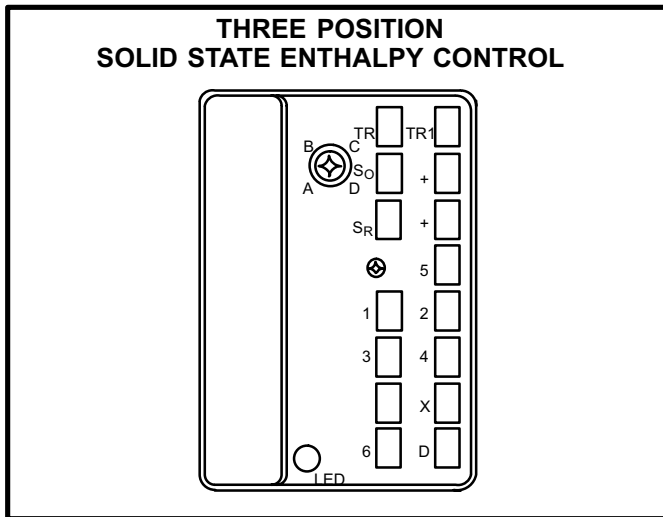

FIGURE 54
- 3- Install jumper across enthalpy control terminals D and TR1. See figure 54 for terminal location.
- 6- Remove jumper installed in step 3. Install jumper across enthalpy control terminals X and TR1. See figure 54 for terminal location.